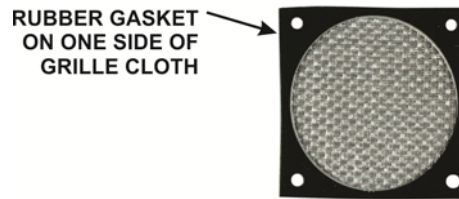
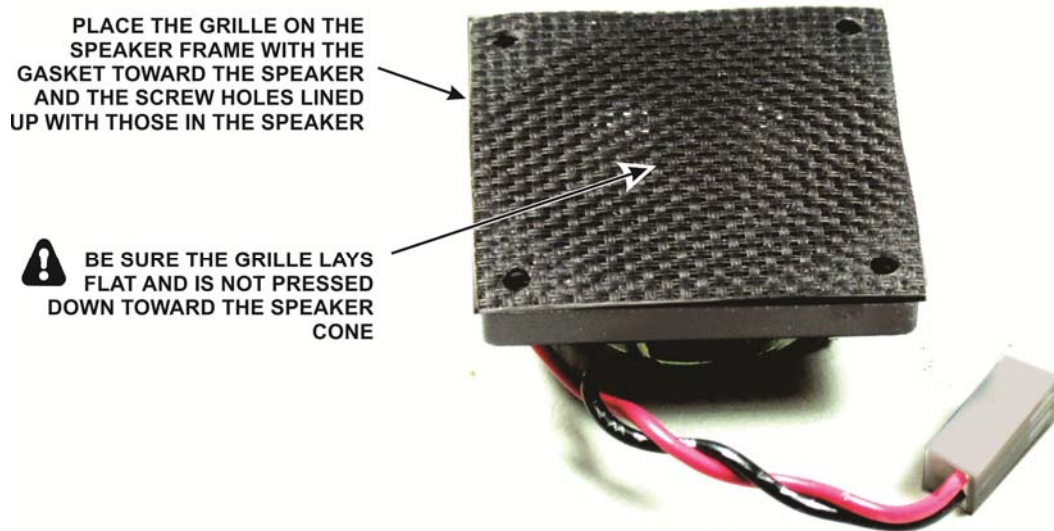

Figure 7. Rubber Gasket on Grille Cloth.
Figure 8. Positioning the Grille and Gasket on the Speaker Frame.
- Inspect the grille and identify the side with a rubber gasket attached (see Figure 7).
- Position the gasket on the speaker frame as shown in Figure 8 with the rubber gasket (Figure 7) facing the speaker as shown. The grille must lay flat. Otherwise the speaker cone can hit the grille producing distortion and noise.